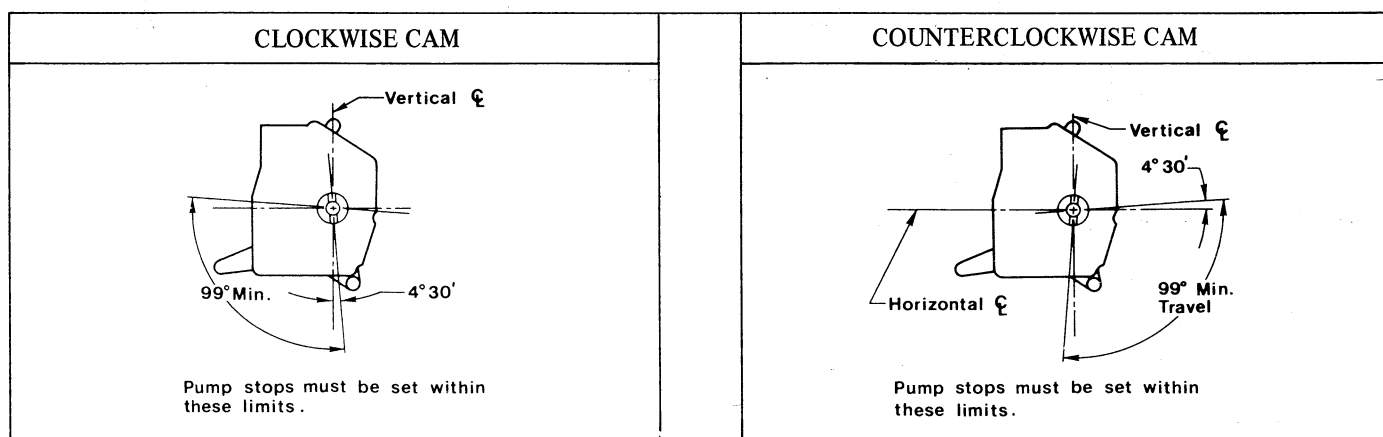

Figure 7. External Pump Handle Stops.
E. EXTERNAL PUMP HANDLE STOP INSTALLATION – SERIES 7269 ELECTRIC RESET. Figure 7.
Note: There are both clockwise and counterclockwise resets. Be sure to use the appropriate limit information in Figure 7.